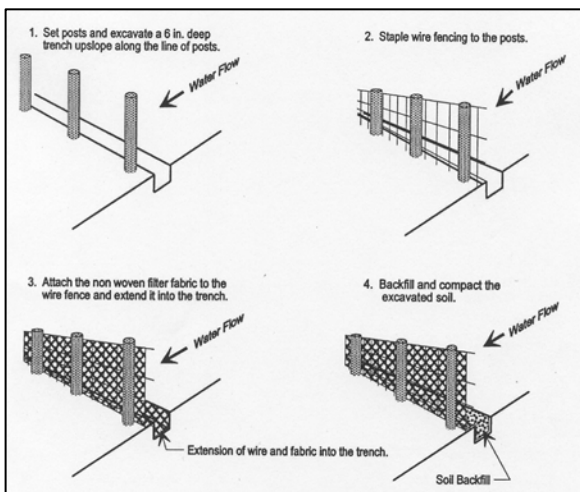

Figure SB-1 Installation of Silt Fence
- Dig trench along the fence alignment as shown in Figure SB-1. Trench depth for Type A & B fences should be at least 6" deep and at least 4" deep for Type C fences.
- Fasten support wire fence for Types A & B fences to upslope side of posts and 6" into the trench (see Figure SB-1).